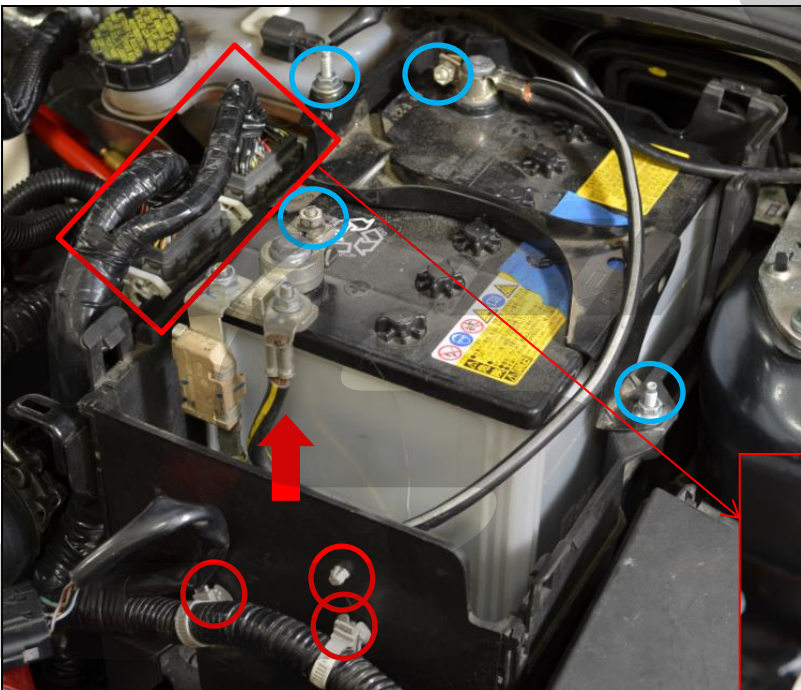

Figure 1b
- b) Remove the battery box front cover. Pop the three wire clips (red circles) out of the panel then slide the panel up (red arrow). Shown in Figure 1b.
- c) Remove the battery tie down and the terminal clamps. Use a 10mm socket and ratchet, shown with blue circles in Figure 1b.
- d) Remove the ECU connections. Push the tabs (red arrows) then rotate the white levers up and pull the connectors out of the ECU. Shown in Figure 1b.